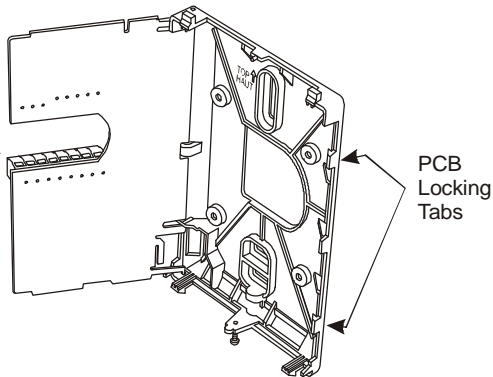

Figure 2: Opening the Thermostat Controller PCB
- Carefully pull the locking tabs on the right side of the thermostat controller mounting base and unlock the PCB. Open the PCB to the left as illustrated in Figure 2.